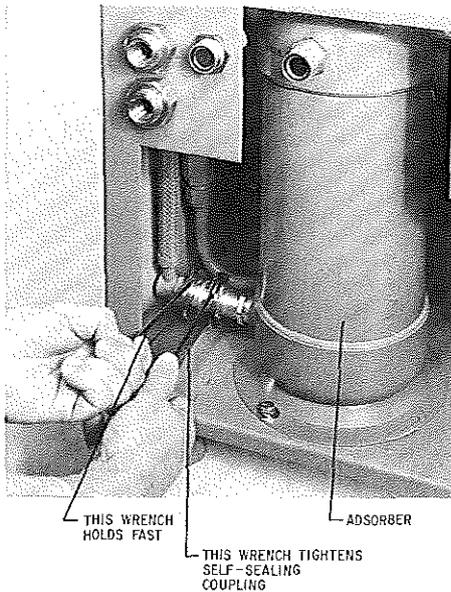

Figure 4.2 Connecting self-sealing couplings
- c. Using the two wrenches supplied in the Installation and Scheduled Maintenance Tool Kit, make the connection quickly to minimize minor gas leakage. See Figure 4.2.
Make sure to hold fast on the left coupling nut while tightening the right coupling nut, as shown in Figure 4.2.